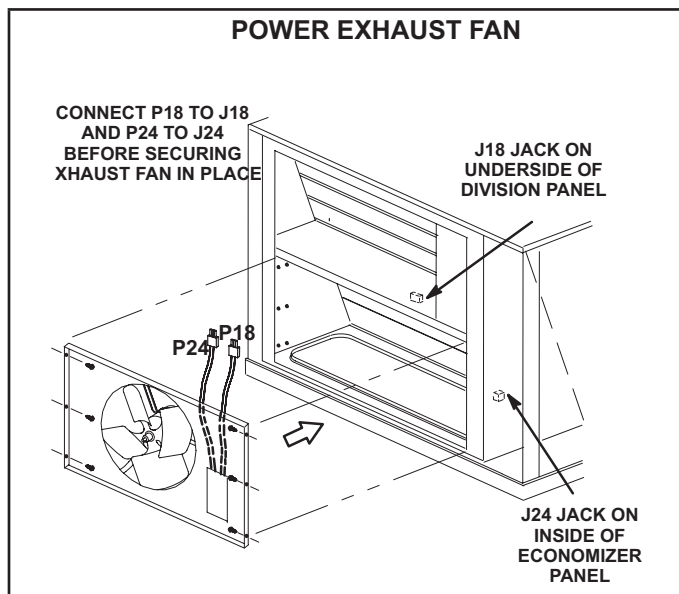

Figure 46
1. On the back side of the unit, remove the screw securing the back of the ionizer bracket. See Figure 46. Retain the screw to secure the back side of the ionizer bracket.